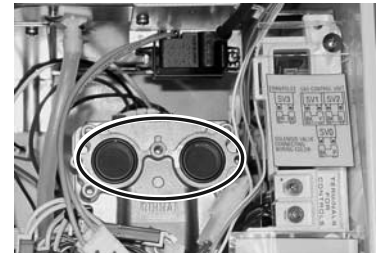

Figure 35
28. Make sure that the two black packings (Figure 35) are intact on the gas control assembly. Attach the gas manifold with 3 machine screws at the gas control assembly. Replace the lower and upper packings (included in kit) for the manifold plate removing any residue.